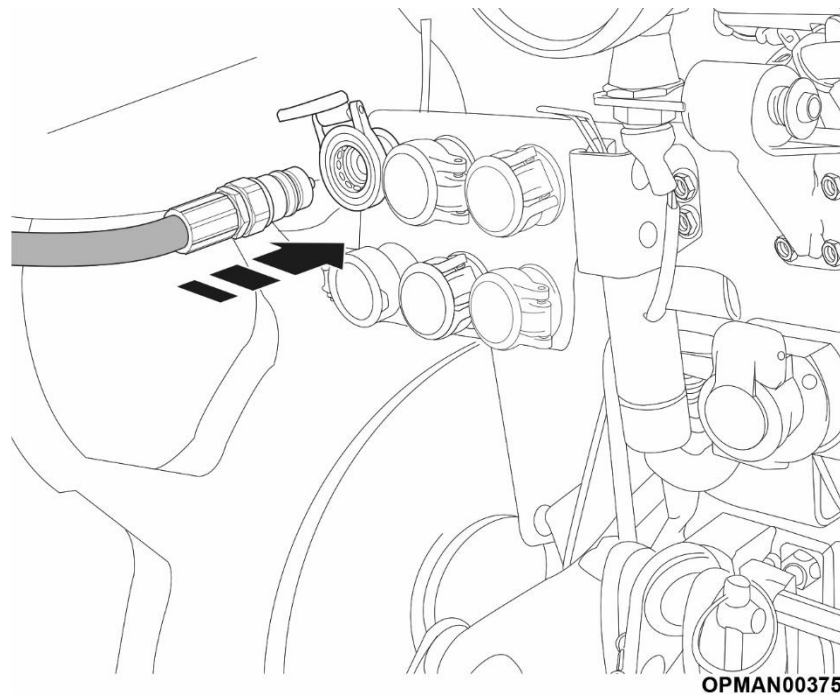

Figure 9
- 3.2.2.8 If the machine is provided with hydraulic side-shift, connect the two hydraulic hoses of the mower to the hydraulic services on the tractor (Figure 9).